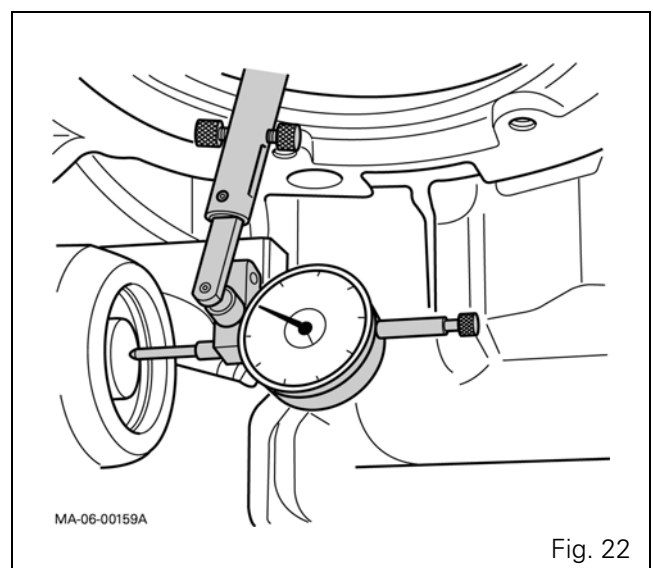

Fig. 22
76. Place the dial gauge feeler pin on the end of the drive pinion (Fig. 22).